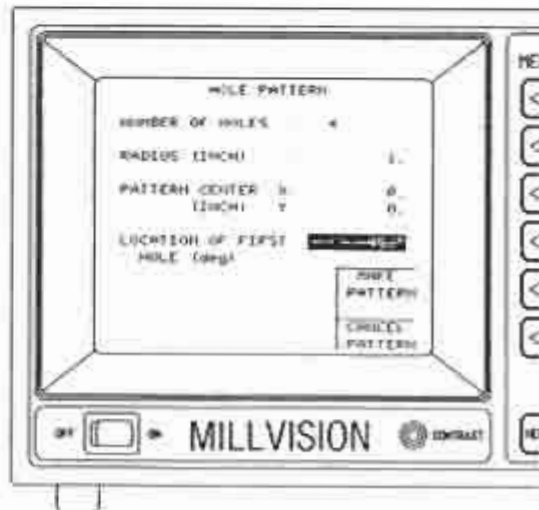

Figure 41a. Hole Pattern 1.
- 5) Enter the information regarding hole pattern 1 (Figure 41a).